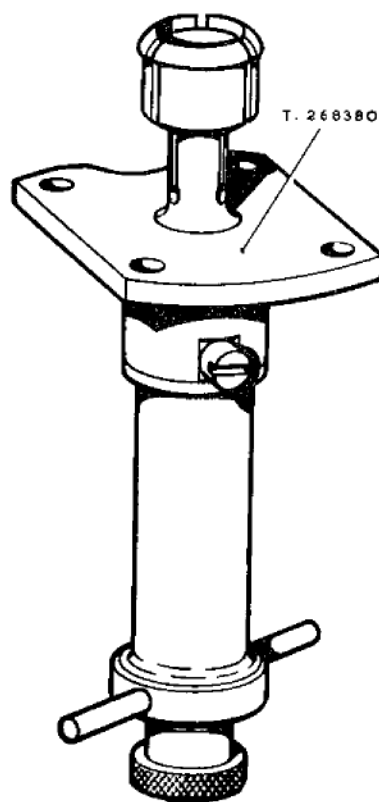
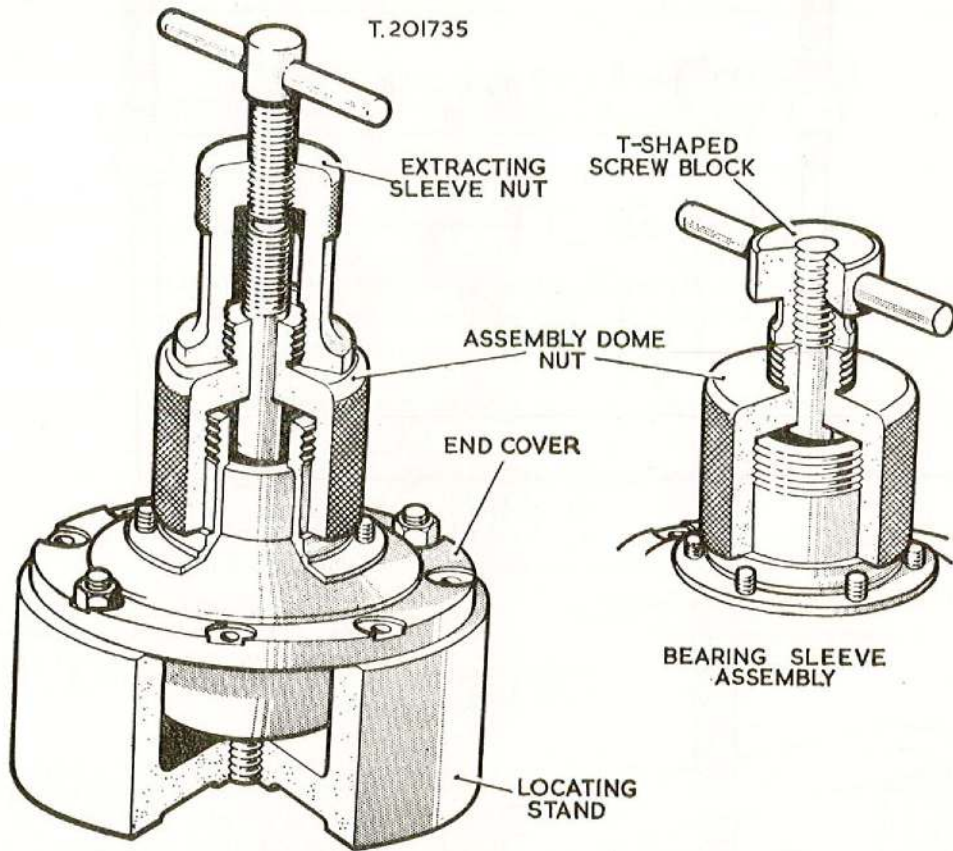

Fig. 4. Carbon-bearing extractor
Fig. 5. Removing or fitting the bearing sleeve
29. Place the end cover on the bench with the carbon bearing (71) uppermost. Use the compressing tool T.271067 to ease the spring load, then remove the circlip and fit the extractor T.268380 (fig. 4) to withdraw the carbon bearing.
30. Take out the carbon-faced seal and sealing ring assembly (70) and also the spring and spring cups, garter seal (66) and washer.
31. To remove the bearing sleeve, mount the end cover on the two studs to the locating stand which is provided with the extractor T.201735 (fig. 5). Fit two slave washers and nuts.